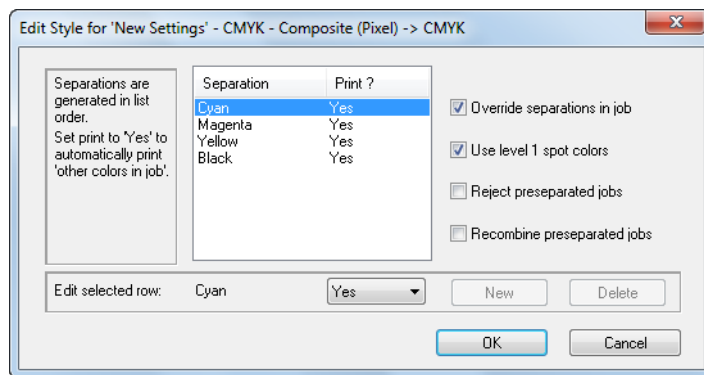

Figure 13.16 Edit Style dialog box
- Otherwise, a more compact dialog box displays only the options for separations, as shown in Figure 13.16. This form of the dialog box suits contone output and also output to devices and processes that do their own screening.
This dialog box contains a list showing the separations that the RIP can produce. There are initially separations for the process colors in the selected color space. In Figure 13.16 there are separations for the four process colors in the CMYK color space.